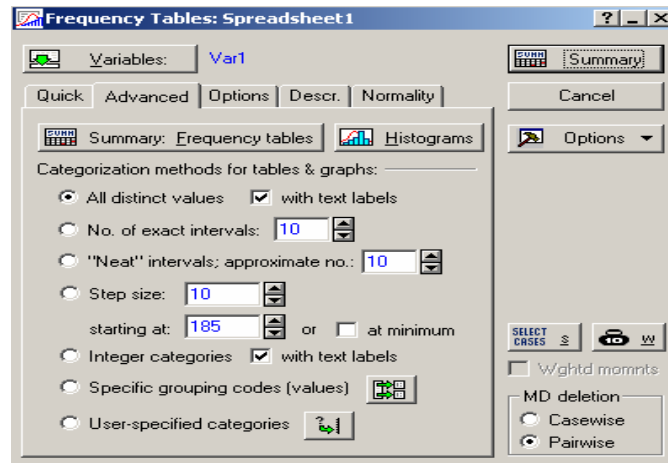

Figure 2.6 Frequency Table
4. In Frequency table spreadsheet, click Advanced (you will get Figure 2.6)